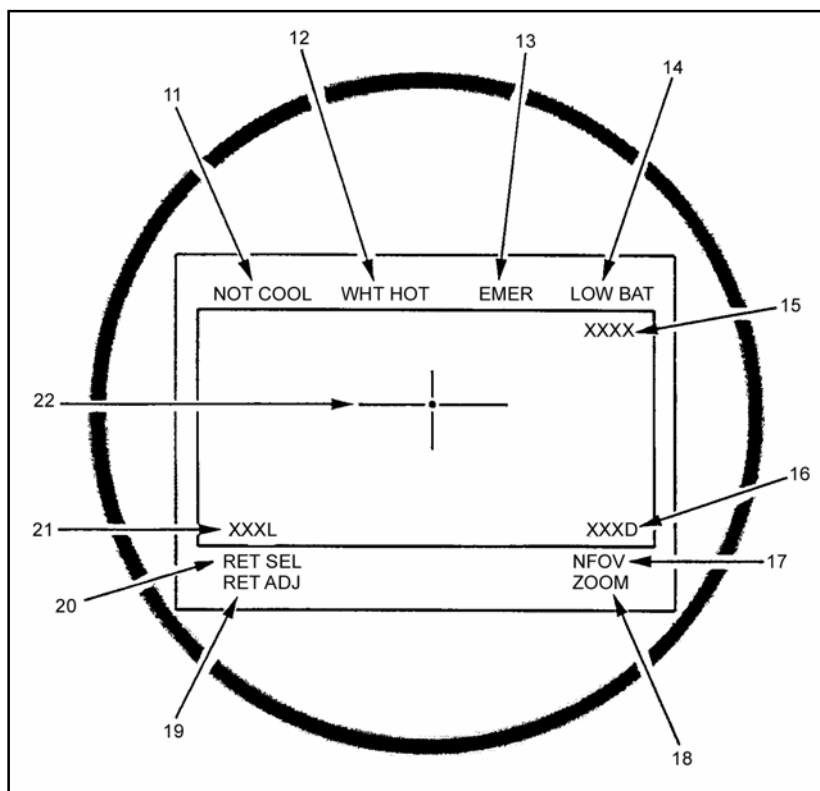

Figure G-25. Eyepiece indicators.
c. **Eyepiece Indicators** (Figure G-25). Eyepiece indicators illuminate as follows:
(1) NOT COOL (11) when the detectors are not cool enough for proper operation.
(2) WHT HOT/BLK HOT (12) polarity.
(3) EMER (13) during emergency mode operation.
(4) LOW (14) when battery power has about 15 minutes of useful power left with go-to-war batteries.
(5) RETICLE SELECT/FOV (15) identifies which reticle is currently selected and indicates wide FOV or narrow FOV as selected by the FOV.
(6) ELEVATION INDICATOR (16) indicates the elevation zeroing adjustment of the reticle. It also displays the number of increments the reticle is UP (U) or (D) DOWN from the center zero position.
(7) NFOV/WFOV (17) indicates wide FOV or narrow FOV.
(8) ZOOM (18) indicates the zoom mode is selected.
(9) RET ADJ (19) indicates the reticle adjustment mode is selected.
(10) RET SEL (20) indicates the reticle select mode is selected.